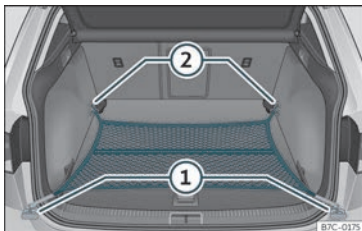

Fig. 117 In the luggage compartment: net bag hooked up at floor level.
- Secure the net hooks to the fastening rings ① and ② >>> **Fig. 117** >>> Δ . The bag zip should be facing upwards.